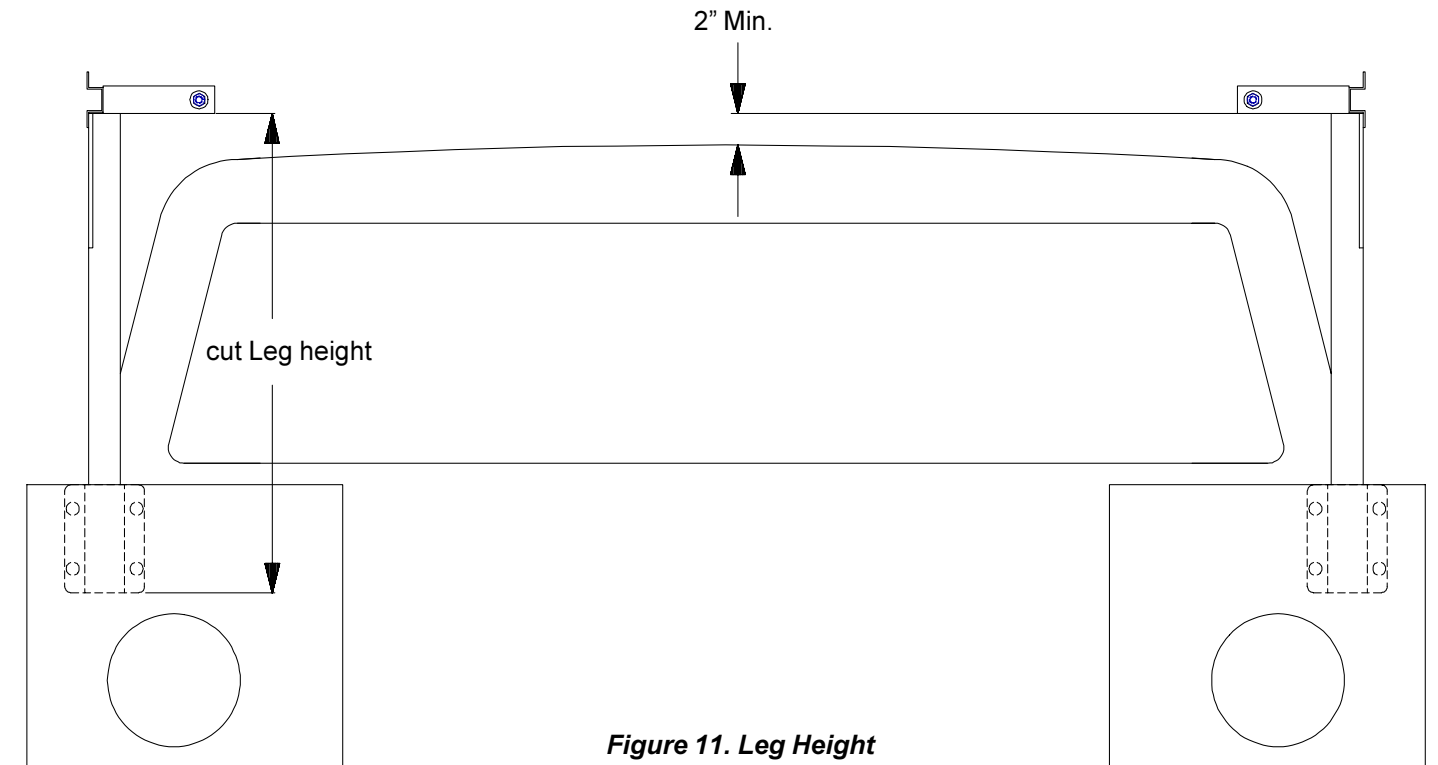

Figure 11. Leg Height
3. Leg Height - Measure from inside Leg Support to a minimum of at least 2" above cab of truck (see Figure 11.). The Legs can be cut this dimension. **NOTE:** If Leg Support mounting Option 2 was used at the rear, the Rear Legs will be cut 3-7/8" shorter than the Front Legs to keep the rack level.